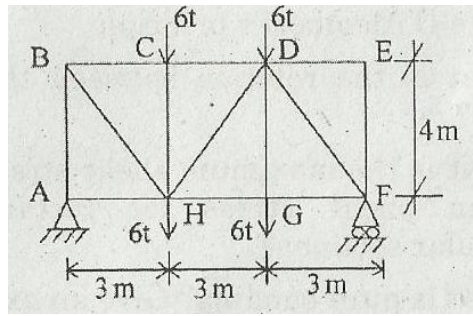

Figure 3
3. Determine the forces in the members of the truss shown in figure 3 below